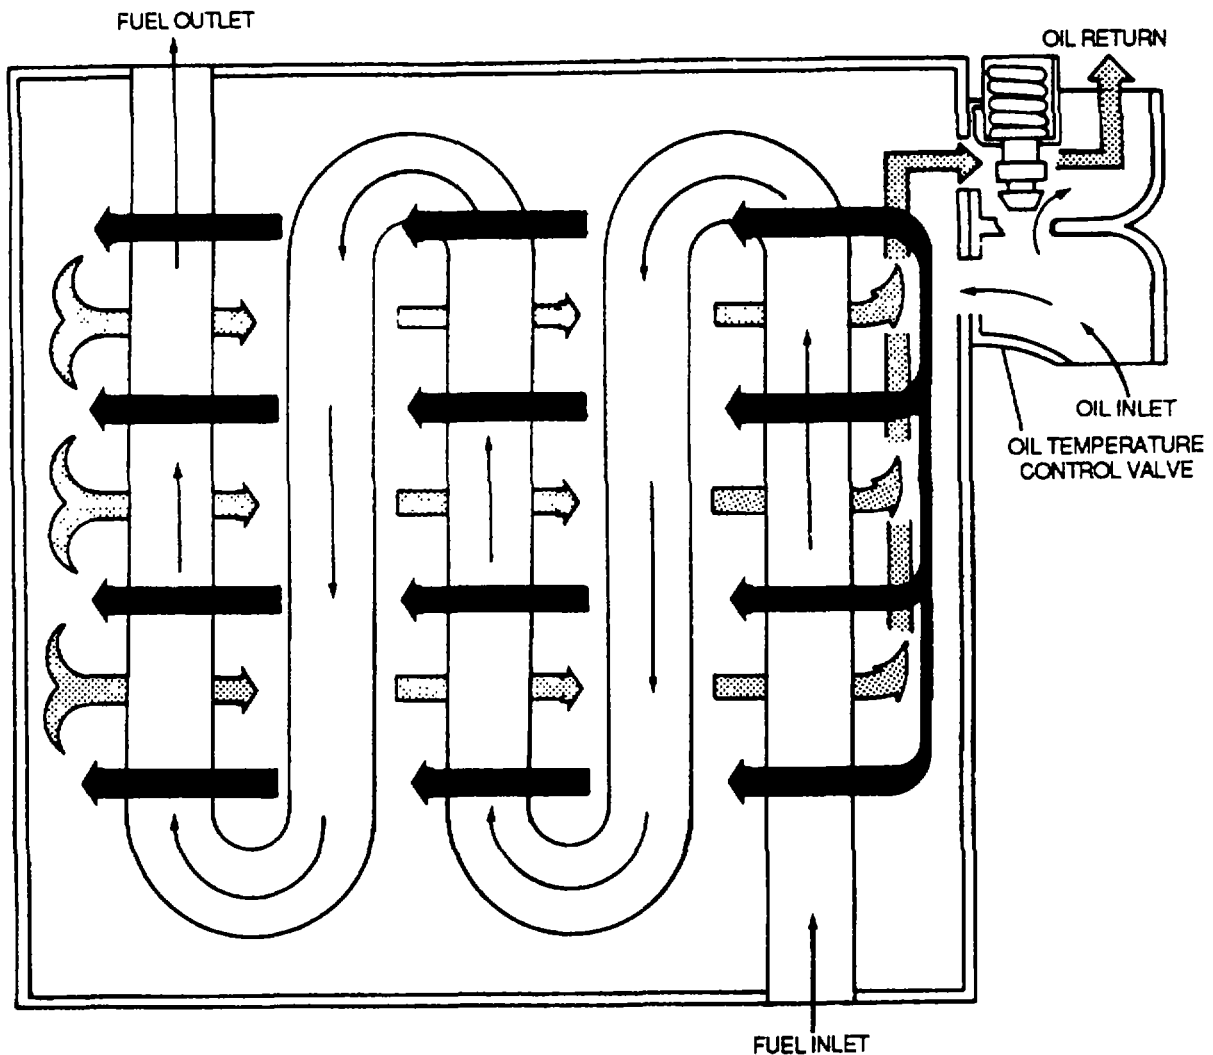

Figure 3-11. Turbine Engine Fuel/Oil Heat Exchanger Cooler
(2) *Turbine engine oil coolers.* Oil coolers are used in the lubricating systems of some turbine engines to reduce the temperature of the oil to a degree suitable for recirculation through the system. Two basic types of oil coolers in general use are the air-cooled oil cooler and the fuel-cooled oil cooler, as shown in figure 3-11. The fuel-cooled oil cooler acts as a fuel/oil heat exchanger in that the fuel cools the oil and the oil heats the fuel. The air-cooled oil cooler normally is installed at the forward end of the engine. It is similar in construction and operation to the air-cooled cooler used on reciprocating engines.